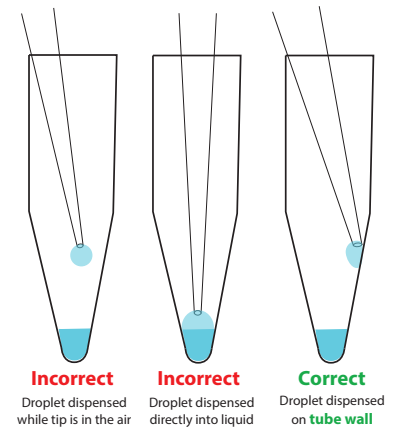

Figure 4. Pipetting Technique. All reagent additions should be carried out by dispensing the added reagent onto the wall of the tube as shown
4. Pipetting Technique - To avoid material loss in the reaction, it is important to avoid direct contact between pipet tips and cell suspension, lysate, or other reaction intermediaries during manual reagent additions. Loss of a small amount of liquid is unavoidable whenever the pipet tip is allowed to come into contact with the reaction mix. All reagent additions should be dispensed onto the wall of the tube as shown in Figure 4.